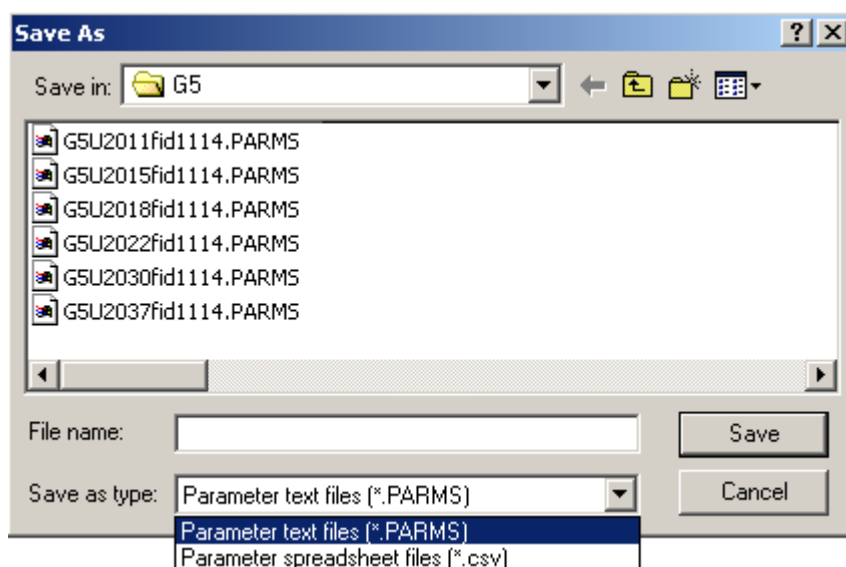

Figure 4.6: Prompt to Enter a File Name for Saving
This allows the user to save a new or old file under a different name or format. Files can be saved in a comma separated value (*.csv) and a parameters (*.PARMS) format. When saving files, a dialog box will appear and prompt for a file name (Figure 4.6). The csv file format can be read in other software programs such as Microsoft Excel (see Figure 4.7).
4. The conversion process now starts and there is a time delay while the conversion takes place. The status bar will read "File Conversion in Progress" during this time. When the conversion is completed, a File Save As window opens (Figure 4.6). Select PARMS or CSV (if you desire) and type in the name of the F7 conversion output file you wish to save. Click on **Save** to save the file. A file comment window opens to add file comments if you wish (see Save Parameter File As section earlier in this chapter).
5. The conversion process now starts and there is a time delay while the conversion takes place. The status bar will read “File Conversion in Progress” during this time. When the conversion is completed, a File Save As window opens (Figure 4.6). Select PARMS or CSV (if you desire) and type in the name of the G7 conversion output file you wish to save. Click on **Save** to save the file. A file comment window opens to add file comments if you wish (see Save Parameter File As section earlier in this chapter).